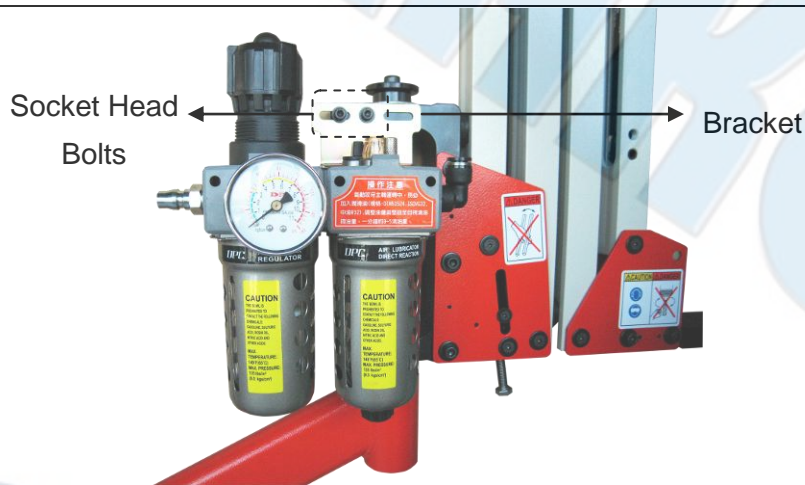

Figure 7-8
- (3) Attach mounting bracket to the back of air unit body with two nuts, and replace front cover (see Figure 7-8).
- (4) Secure air unit to the slanted arm using socket head bolts provided on slanted arm. Attach bracket using center hole and right slot of bracket (see Figure 7-8).